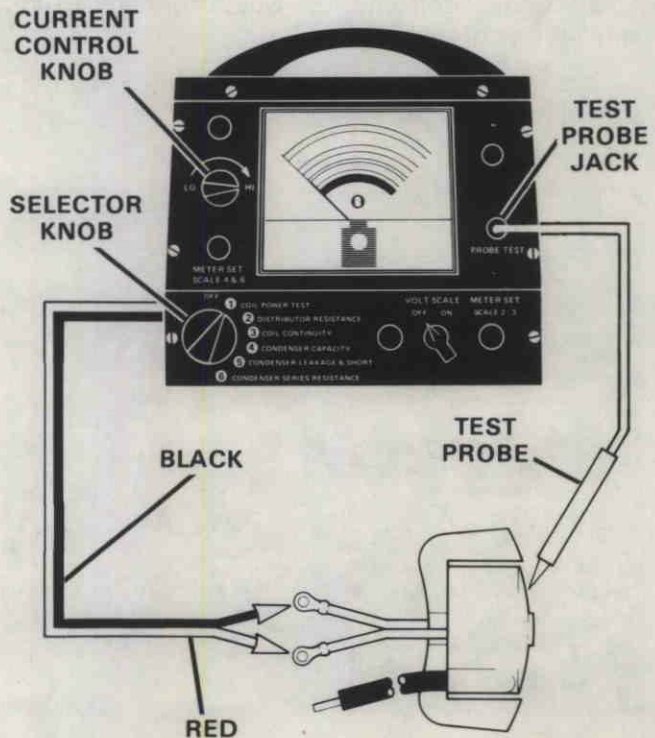

Figure 38. Testing Coil Surface Insulation.
1. Plug test probe into jack in front of analyzer. Figure 38.